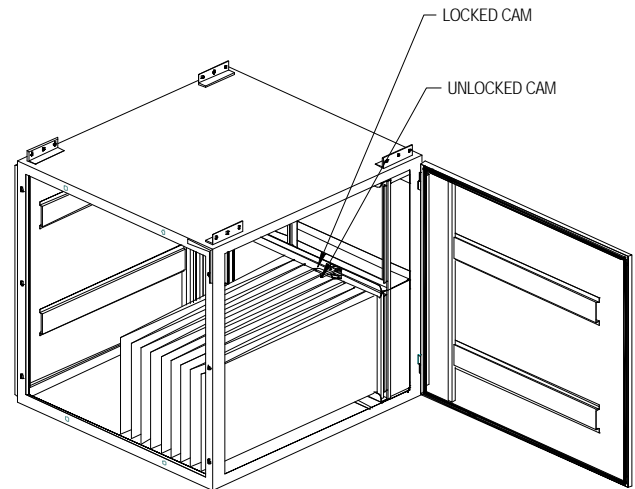

FIGURE 5
6. Remove the bag filters from the unit by disconnecting the filter rods from the unit and disengaging the positive sealing system (**Figure 5**).